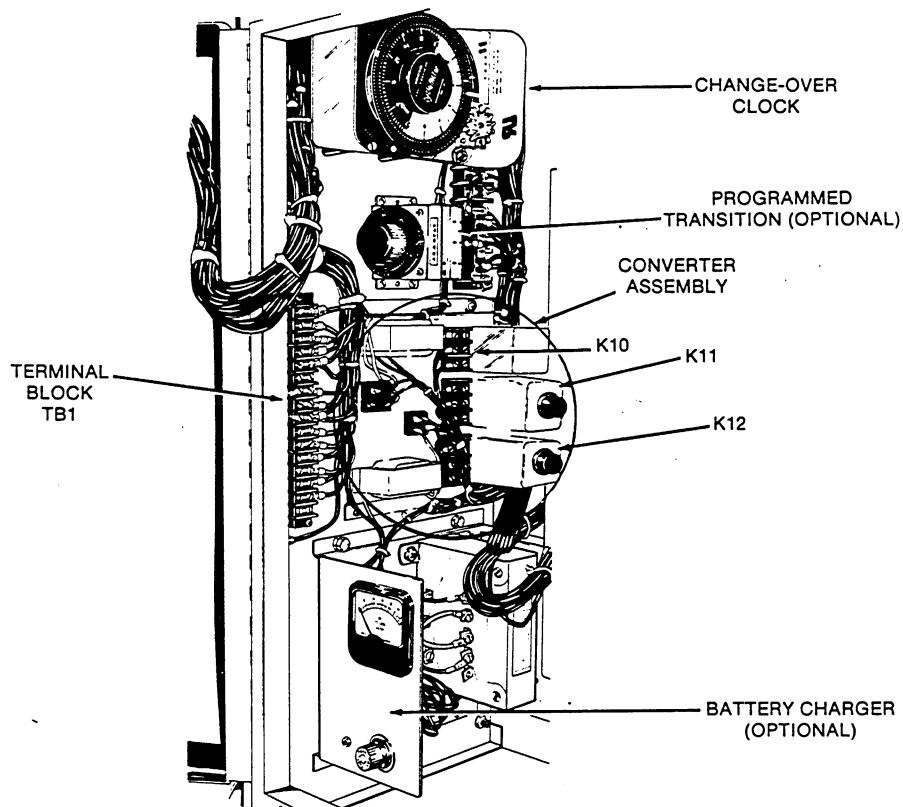

FIGURE 8. COMPONENT LOCATION
After installing the transfer switch, check setting of the change-over clock and relay time delays on the left inside wall of the cabinet (Figure 8). Do not connect starting batteries of the generator sets until these adjustments have been checked as follows:
1. Locate the programmed transition time delay on the left inside wall of the cabinet (Figure 8). It normally has factory settings for a few seconds. If the setting is satisfactory, proceed to next check. Otherwise, proceed to Step 2.
The converter assembly is shown in Figure 8. It contains three relays, two transformers, and two bridge rectifiers. Relay K10 connects the optional battery charger output to batteries of the generator set not running. It also initiates operation of either relay K11 or K12.